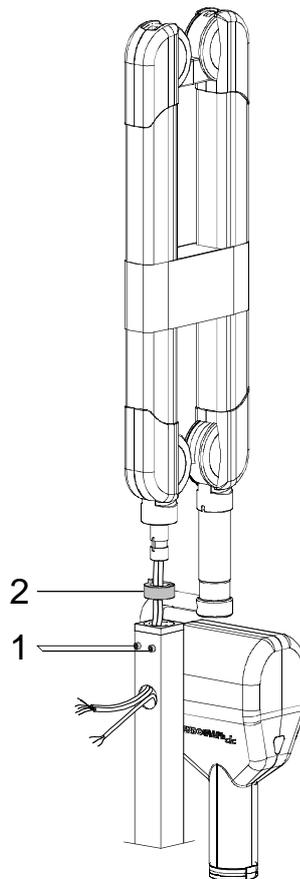

Figure 6-11
1. Loosen the two screws (**1** - Figure 6-11) to allow the positioning of the scissors arm.
2. Assemble the scissors arm (there is no extension arm in this configuration), being careful to insert the spacer (**2** - Figure 6-11) into the rotation pin. The spacer (code 6161305600) is included in the mounting hardware packaging.